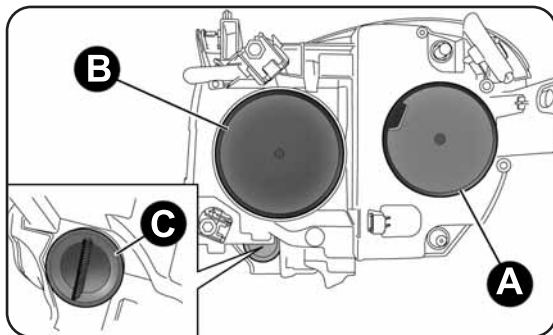
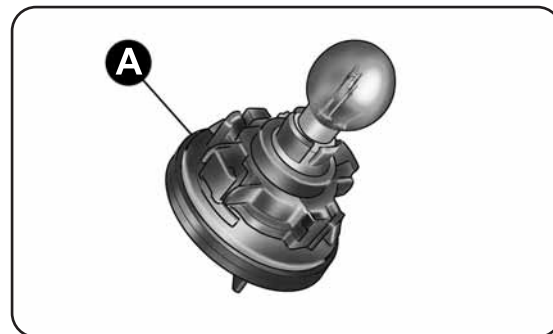

fig. 131
fig. 134
FRONT LIGHT CLUSTERS fig. 131
- remove cover A-fig. 131;
- finally refit the cover A-fig. 131.
- remove cover B-fig. 131;
- finally refit cover B-fig. 131.
To replace the bulb, turn the cover C-fig. 131 anticlockwise by $\frac{1}{4}$ of a turn and replace the bulb + bulb holder assembly A-fig. 134.